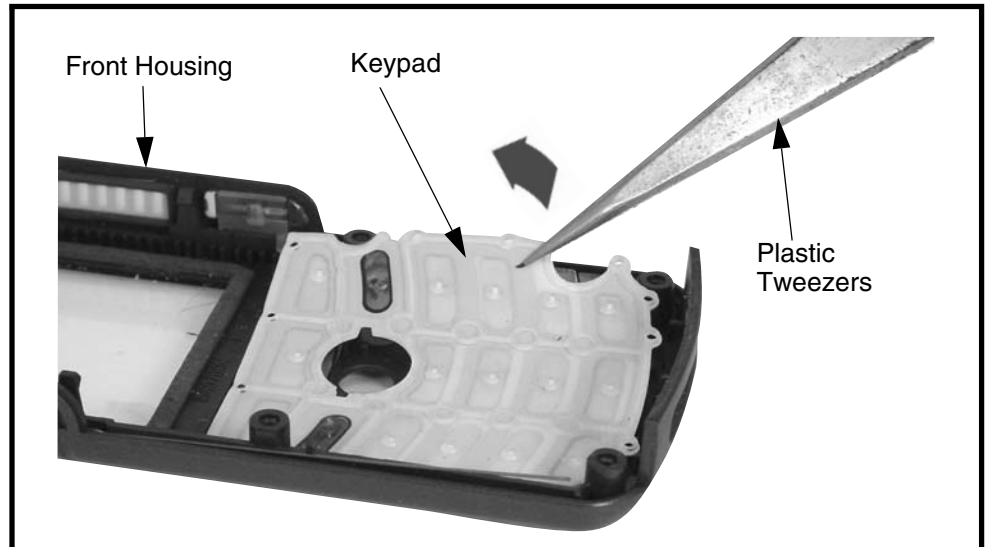

Figure 12. Removing and Replacing the Keypad
2. Lift the keypad up from one corner as shown in Figure 12 and remove it from the front housing.